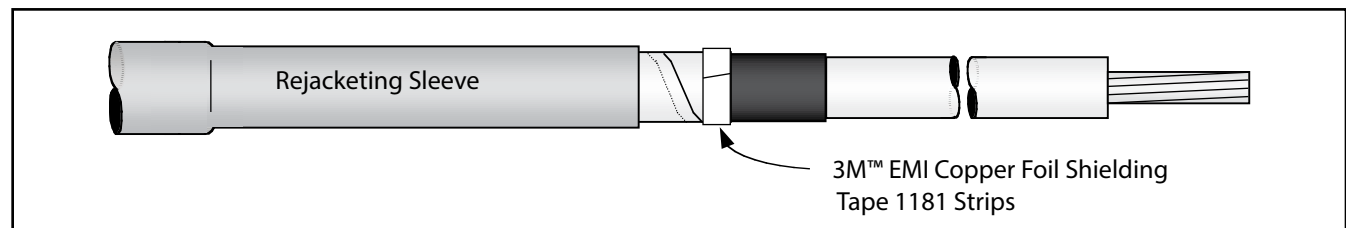

Figure 11
4.2 Secure cable copper tape shield ends with 3M™ EMI Copper Foil Shielding Tape 1181 Strips (*Figure 11*).